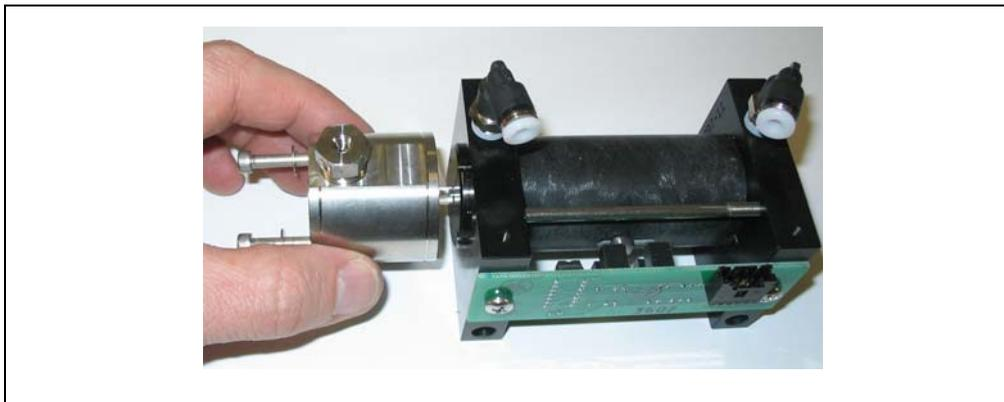

Figure 5-11. Removing the Pump Head
2. Slide the pump head straight off the pump (see Figure 5-11).